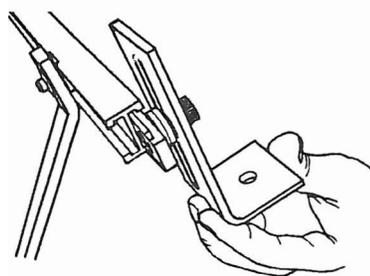

Fig. A-30
**23.** Slip the T-nut into the front slot of the support, as seen in Fig. A-30.